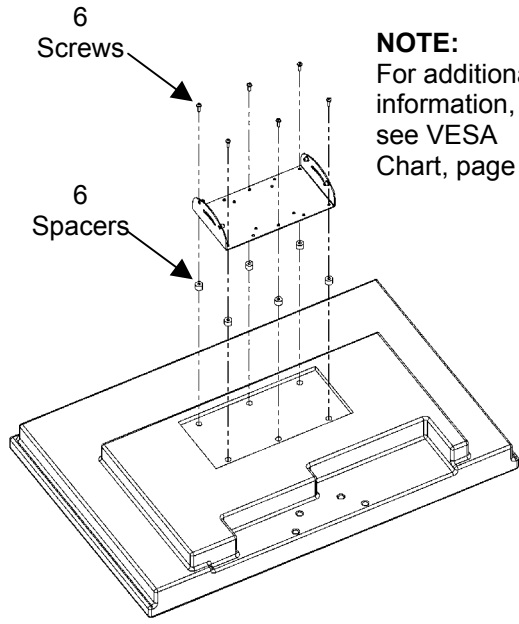

Figure 5. Recessed Mount
- B. Set six spacers over the four mounting holes on your monitor (see Figure 5).
- C. Set VESA interface bracket (10) on top of spacers and install six screws into the mounting holes of your display.